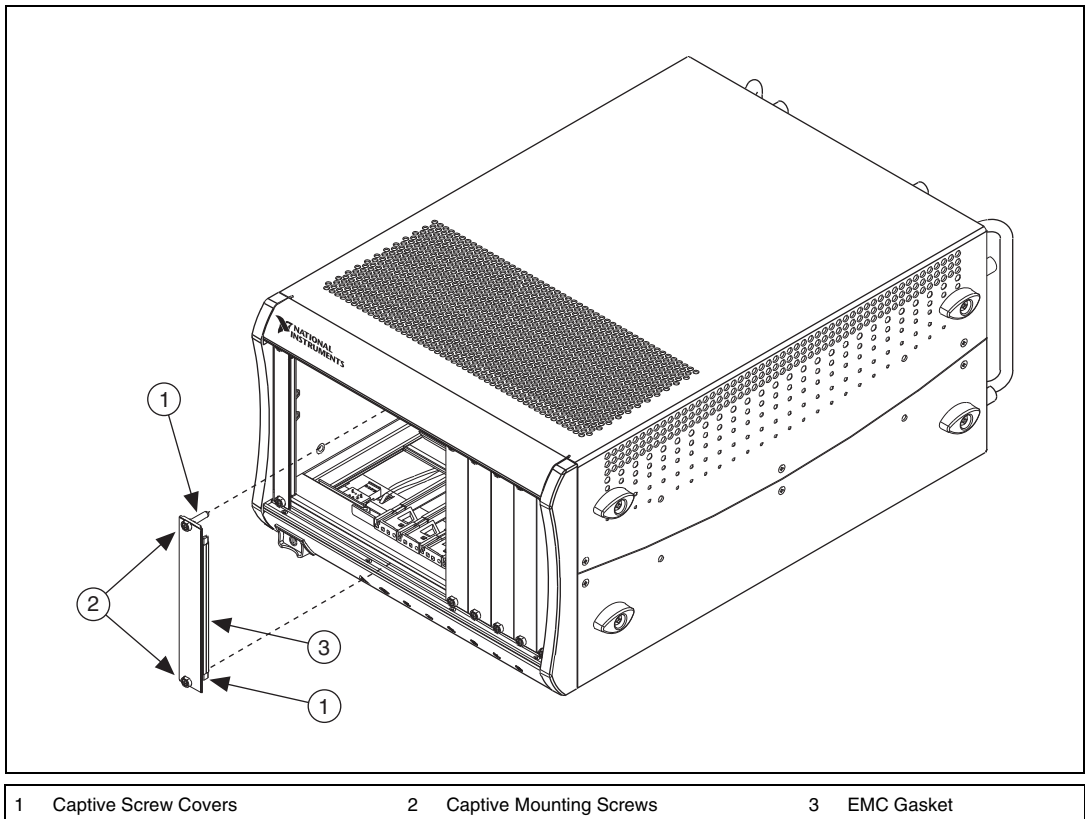

Figure 15. PXI EMC Filler Panels and Chassis
2. Install the PXI EMC filler panels by securing the captive mounting screws to the chassis, as shown in Figure 15. Make sure that the EMC gasket is on the right side of the PXI EMC filler panel.